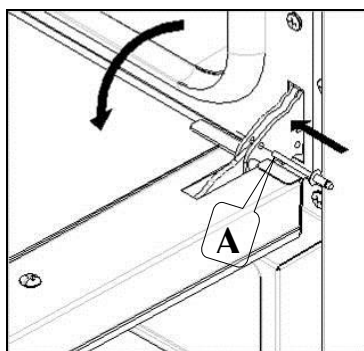

Fig. 4
- insert the equipped plugs in the "A" holes on the hinges (Fig. 4);